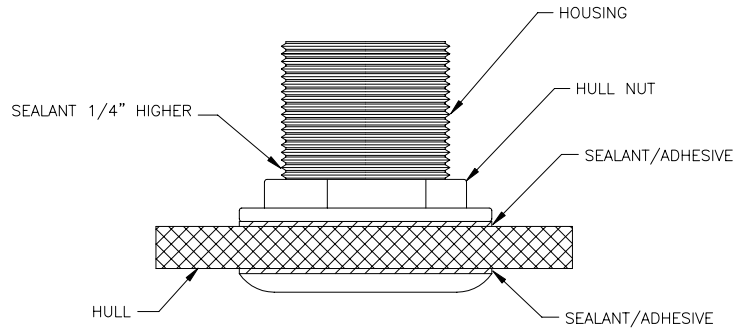

Figure 2.
7. From the inside, thread down the hull nut until it makes contact with either the hull or fairing block, if used. The hull nut should then be tightened to a snug fit using slip joint pliers. See Figure 2.